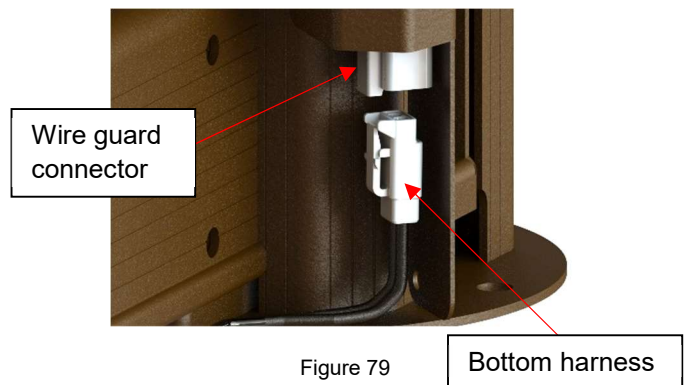

Figure 79
15) Now connect the bottom harness to the wire guard connector. The bottom harness is attached to the key switch cable. Cut the cable tie that holds the bottom harness. Connect it to the wire guard connector. (Figure 79)